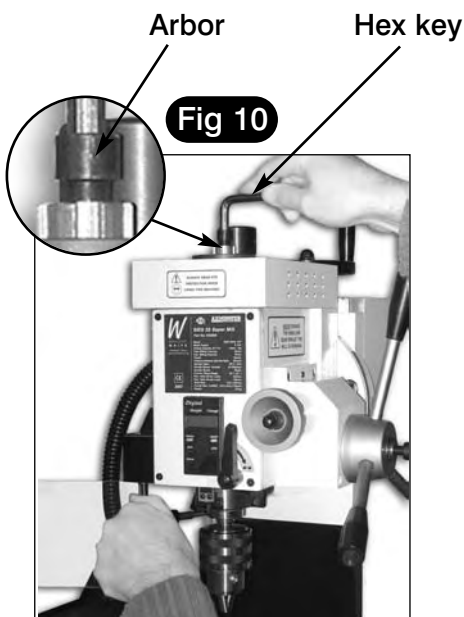

Fig 10
3) While holding the tommy bar rotate the hex key anticlockwise (one turn) until part of the arbor is showing (See fig 10)